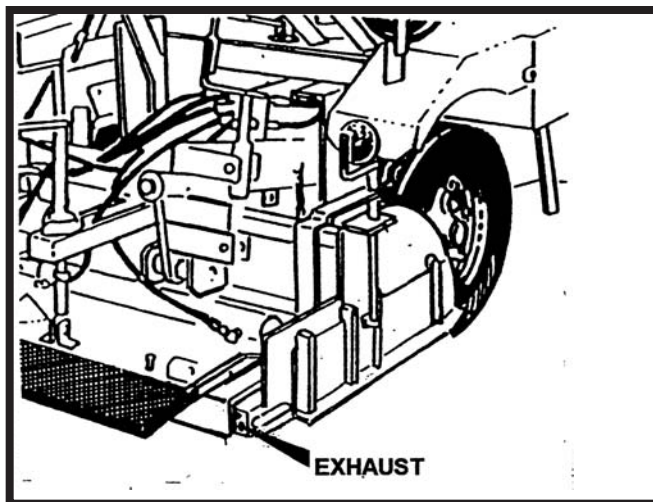

Figure 1
- D. See figure 1 and clear fire port and exhaust.